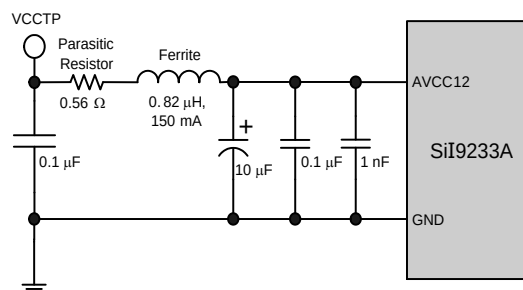

Figure 5.1. Test Point VCCTP for VCC Noise Tolerance Spec
7. The supply voltage noise is measured at test point VCCTP in Figure 5.1. The ferrite bead provides filtering of power supply noise. The figure is representative and applies to other VCC pins as well.